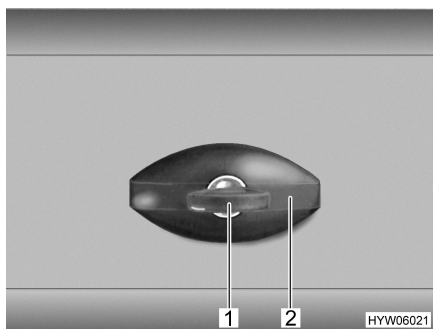

Fig. 16 Flap lock, elliptical-shaped, closed
- Insert key into locking cylinder (Fig. 16,1) and turn a quarter turn in an anti-clockwise direction. The lock handle (Fig. 16,2) snaps out.